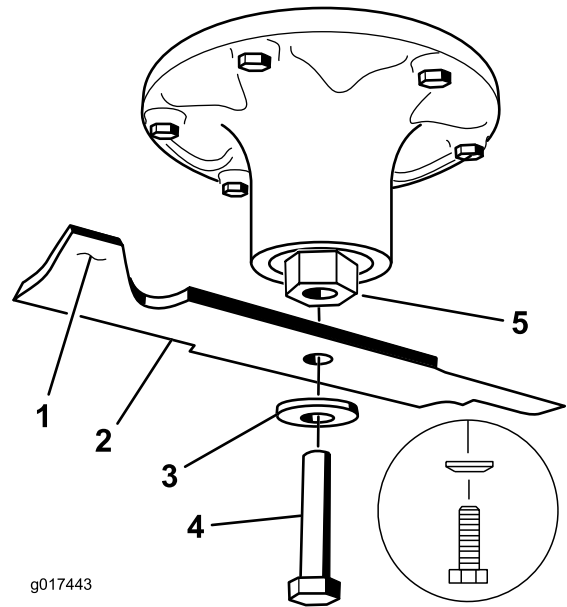

Figure 74
2. Remove the blade bolt, curved washer, and blade from the spindle shaft (Figure 74).
1. Install the blade onto the spindle shaft (Figure 74).
2. Install the curved washer and blade bolt (Figure 74).